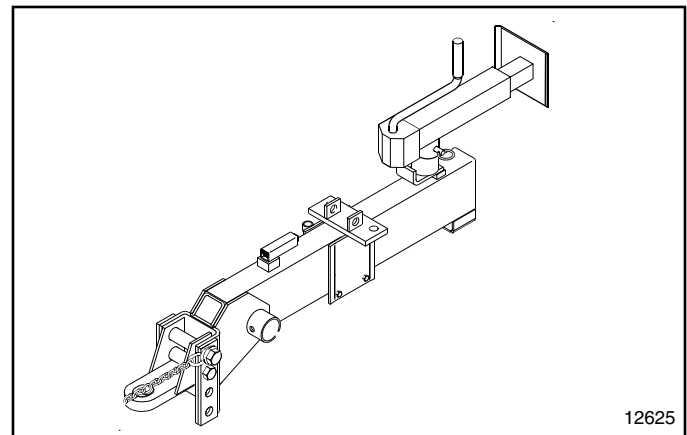

Figure 22
4. Remove the jack from the side of the tongue and pin it on the storage post located on top of the main tongue Figure 22, Jack in Transport Position.